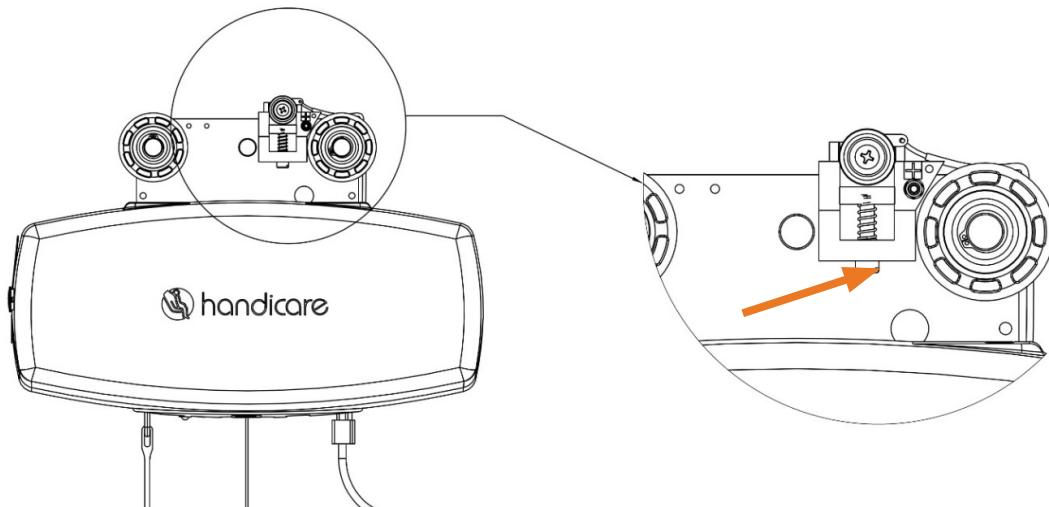

Figure 316: **Ceiling Lift Spring-Loaded Contact Screw**
- To improve contact, adjust the spring-loaded screw (Figure 316) on the ceiling lift.